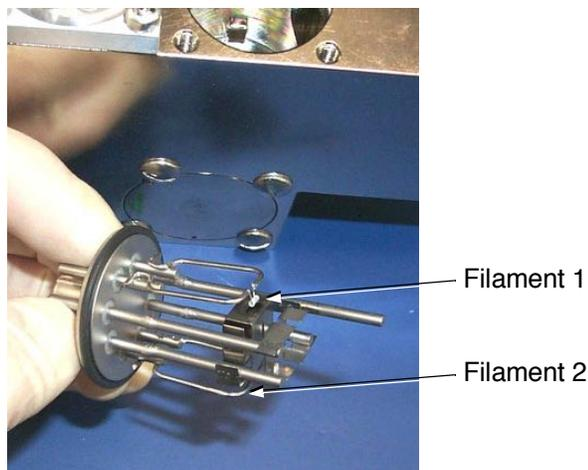
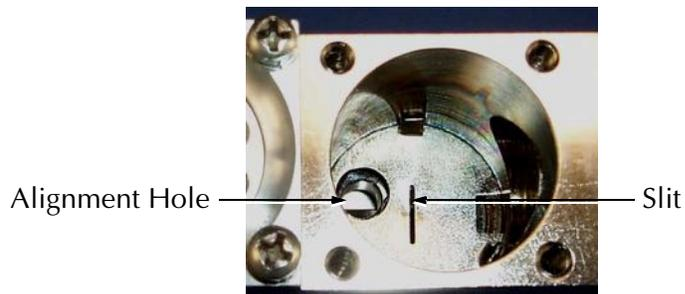

Figure 3-10 Ion Source
Figure 3-11 Ion Source Cavity
1. Examine the ion source (Figure 3-10) and cavity (Figure 3-11) for deposits and discoloration.
2. Look into the ion source cavity (Figure 3-11) and find the ground slit plate.